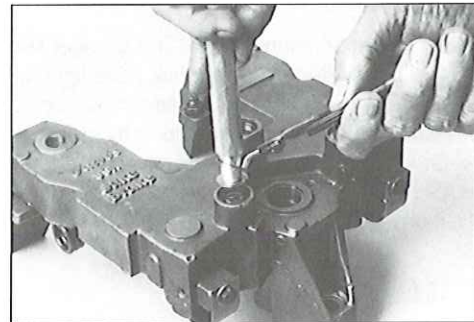

FIG. 37
1. Press down on control valve washer using an appropriate diameter rod to relieve spring pressure (see Fig. 37).